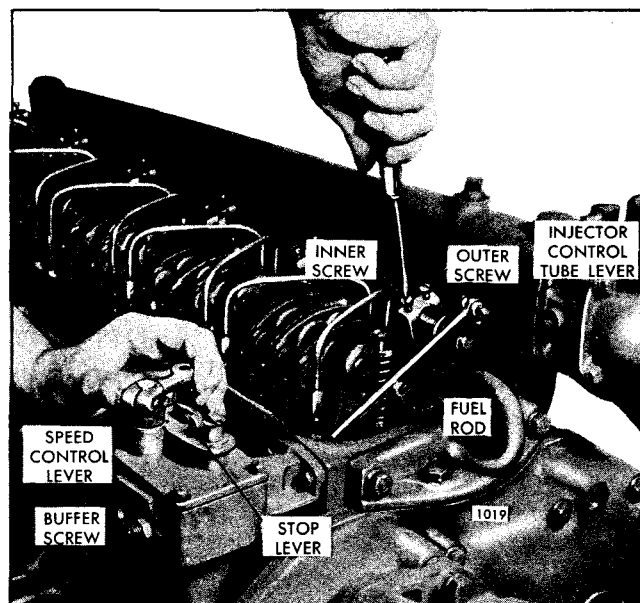

Fig. 2 - Positioning No. 1 Injector Rack Control Lever
2. Back out the buffer screw until it extends approximately 5/8" from the lock nut (Fig. 2).
Adjust the No. 1 injector rack control lever (Fig. 2) first to establish a guide for adjusting the remaining injector rack control levers.